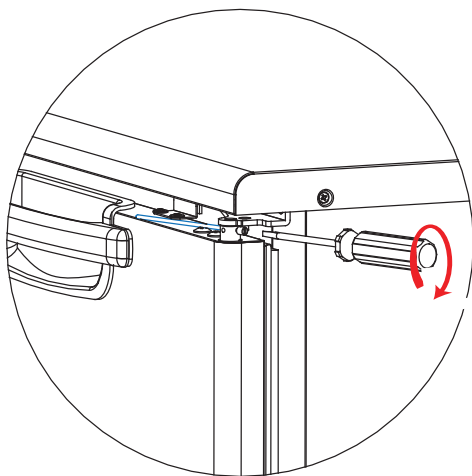

Fig 9-40
5. Turn and drive the tension pin into the next step hole. (Fig 9-40)